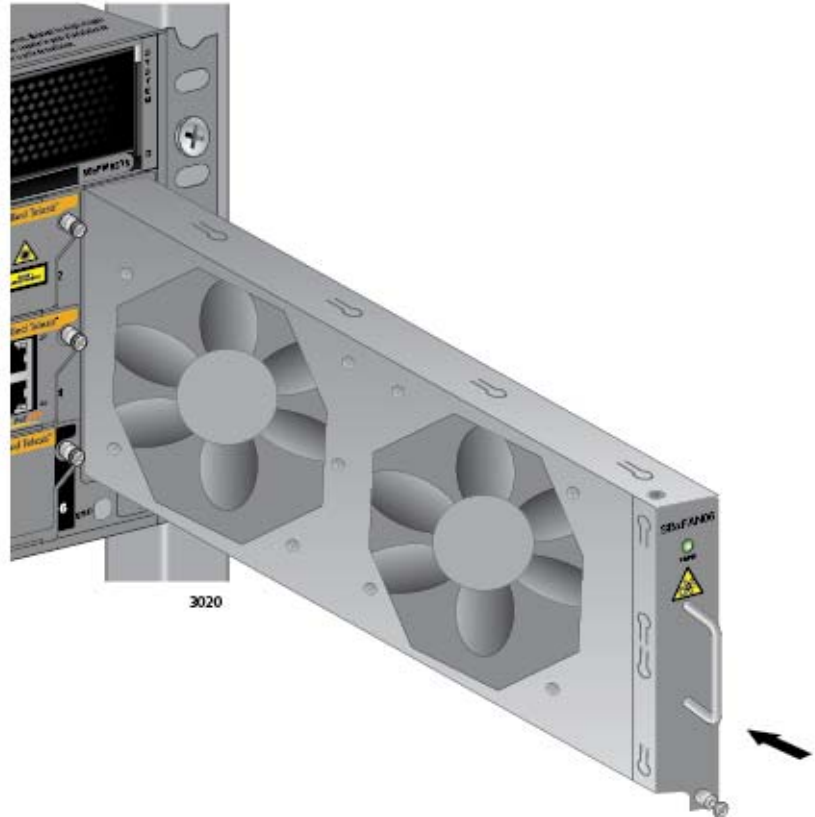

Figure 183. Installing a New AT-SBxFAN06 Fan Module
1. Orient the new module with the LED and module name on top and carefully slide the module into the slot in the chassis. Refer to Figure 183 on page 285.